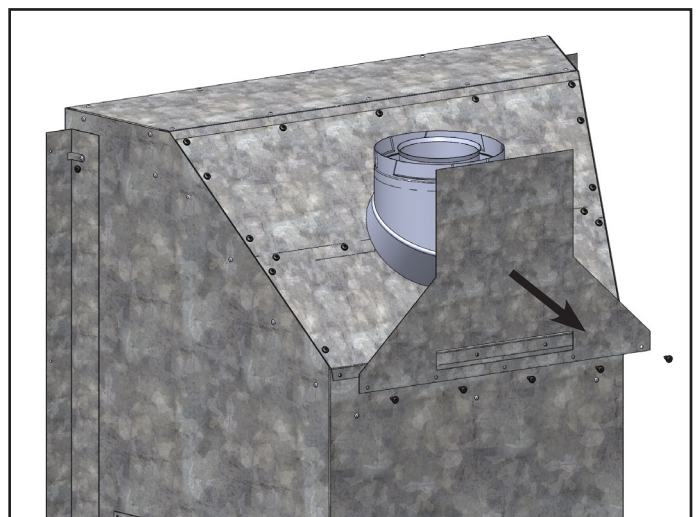

Fig.20
1. Remove the back shield from the appliance and discard. (**Fig.20**)